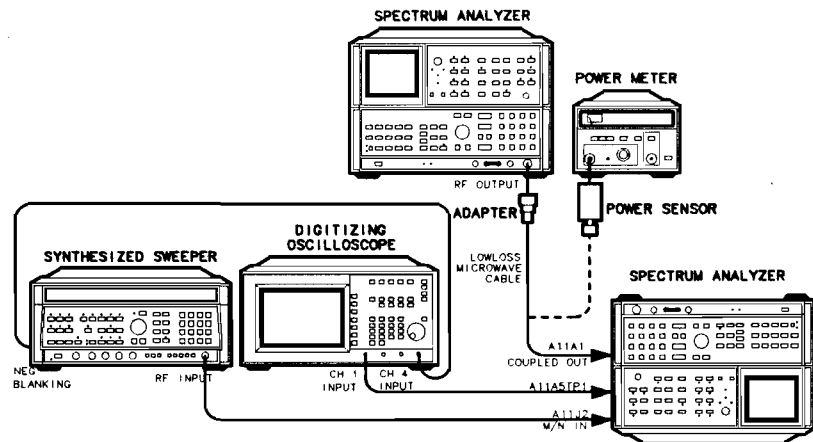
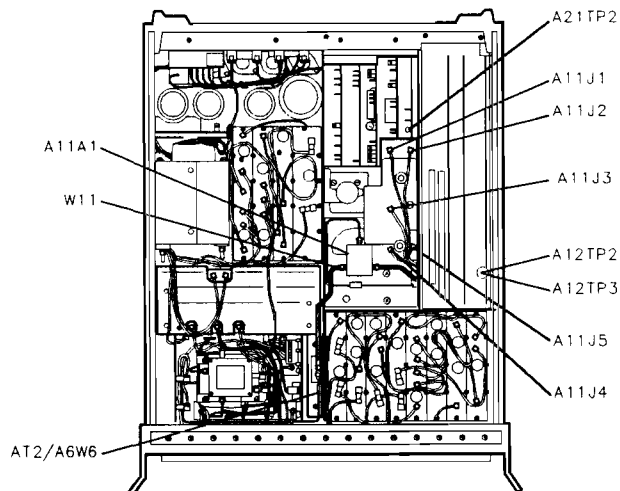

Figure 3-69. YTO Loop Adjustment Setup
Figure 3-70. Location of Assemblies, Cables, and Test Points
Procedure	1. Set the spectrum analyzer (DUT) LINE switch to STANDBY. Turn the spectrum analyzer over to position the RF Section on top, as shown in Figure 3-69. Remove the RF Section's bottom cover. 2. Disconnect semi-rigid coax cable W11 from A11A1 CIA Assembly's YTO OUT connector. Disconnect the opposite end of W11 from AT2 (for RF Sections 2526A and below, disconnect from cable A6W6). See Figure 3-70 for the location of A11A1, W11, A6W6, and AT2.
3. On the A11 YTO Loop Assembly, disconnect the cable 8 (gray) from A11J1 PHASE DET OUT, the cable 93 (white/orange) from A11J2 M/N IN, and the cable 5 (green) from A11J3 20/30 IN. Disconnect cable 0 (black) from A11J4 IF IN and A11J5 IF OUT. See Figure 3-70.
4. Connect a jumper between A12TP2 and A12TP3 (LOCK INDICATOR DISABLE) on the A12 Front Panel Interface Assembly in the RF Section. Connect a jumper between A21TP2 TUNE VOLTAGE and the RF Section chassis ground. See Figure 3-70.